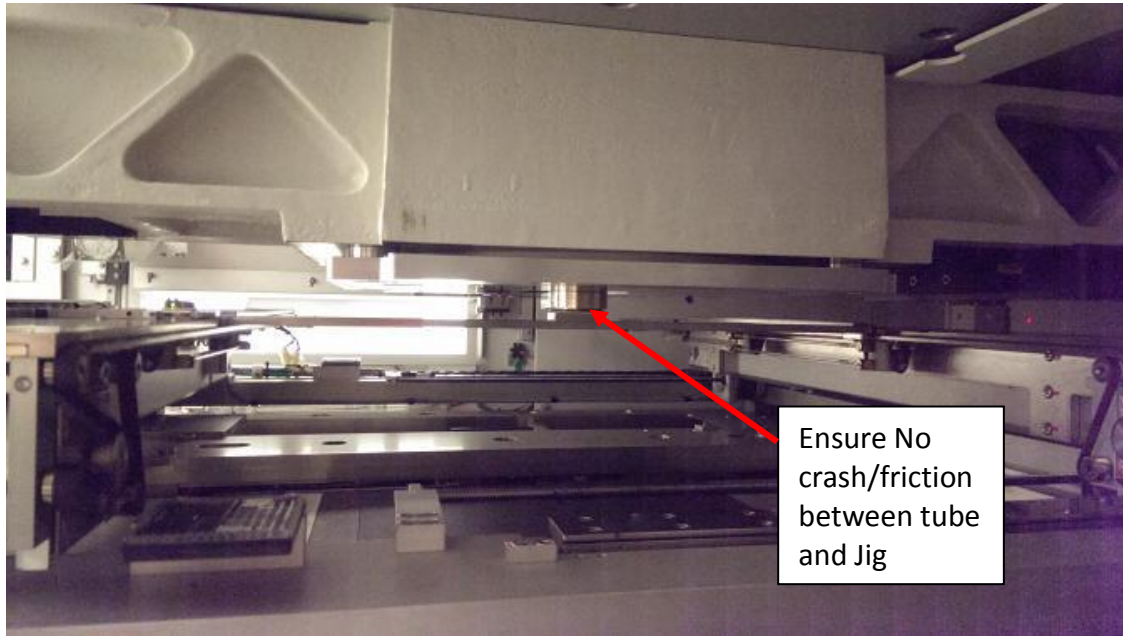
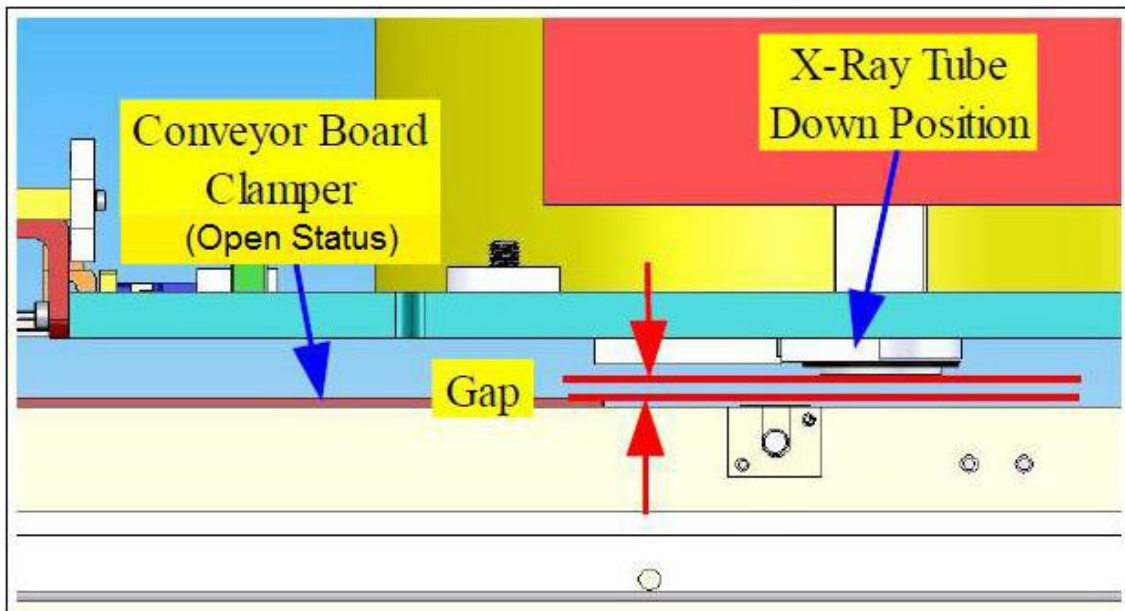

Figure 26 Clearance checking
Figure 27 Clearance checking
34. Move the XY stage pass thru the X-Ray tube bottom target and ensure Jig is not crash/friction with tube Figure 26 and the stage clamp blade as Figure 27. As usual the clearance between tube and Jig will be approximately 2~3mm. If X-Ray tube crashed, slightly adjust the High Mag hard stop to higher position.